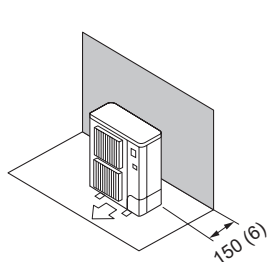

Fig. 2-6
- (1) Obstacles at rear only (Fig. 2-6)